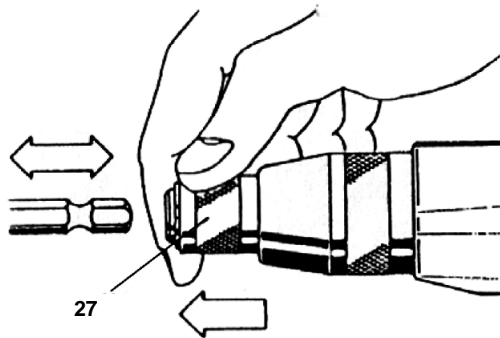

Fig. 15: Changing the tool GAF / PARL
Pull the sleeve (27) forward, against the force of the spring, insert the tool or pull it out and move the sleeve back to its initial position (see Fig. 15:).